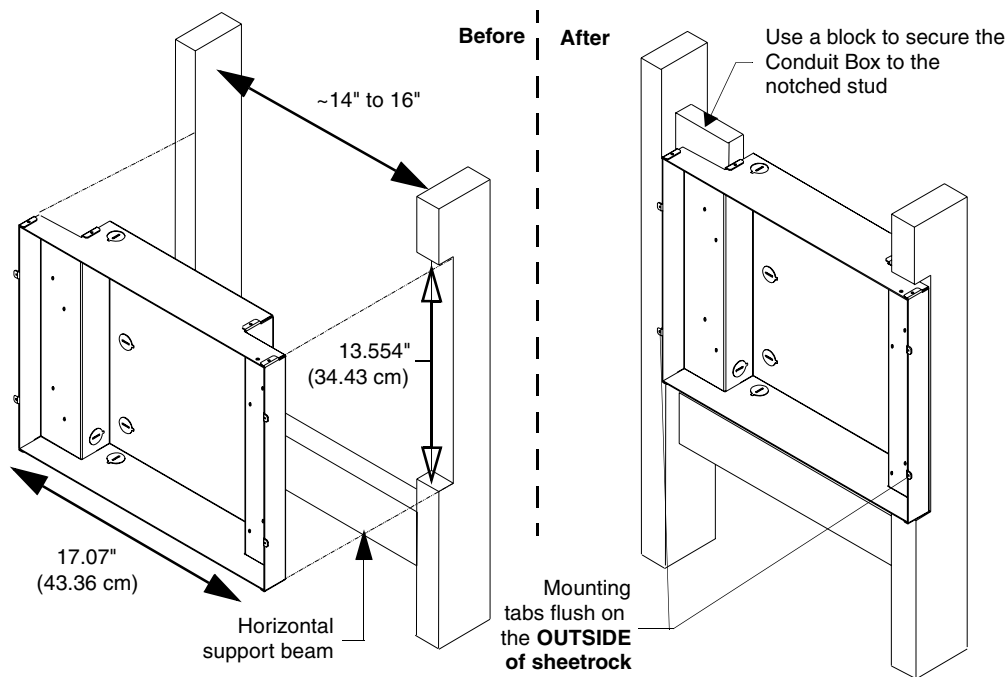

FIG. 55 CB-TP17 conduit box installation into a notched stud (showing before and after installation)
2. Determine whether one or both of the selected stud beams must be notched (FIG. 55). The determining factor is the flush alignment of the mounting tabs along the outside of the **post-wall** sheetrock.
3. Cutout the notched beam using a height of 13.554" (34.43 cm) (as shown below in FIG. 55) and a depth *equal to the thickness of the drywall*.